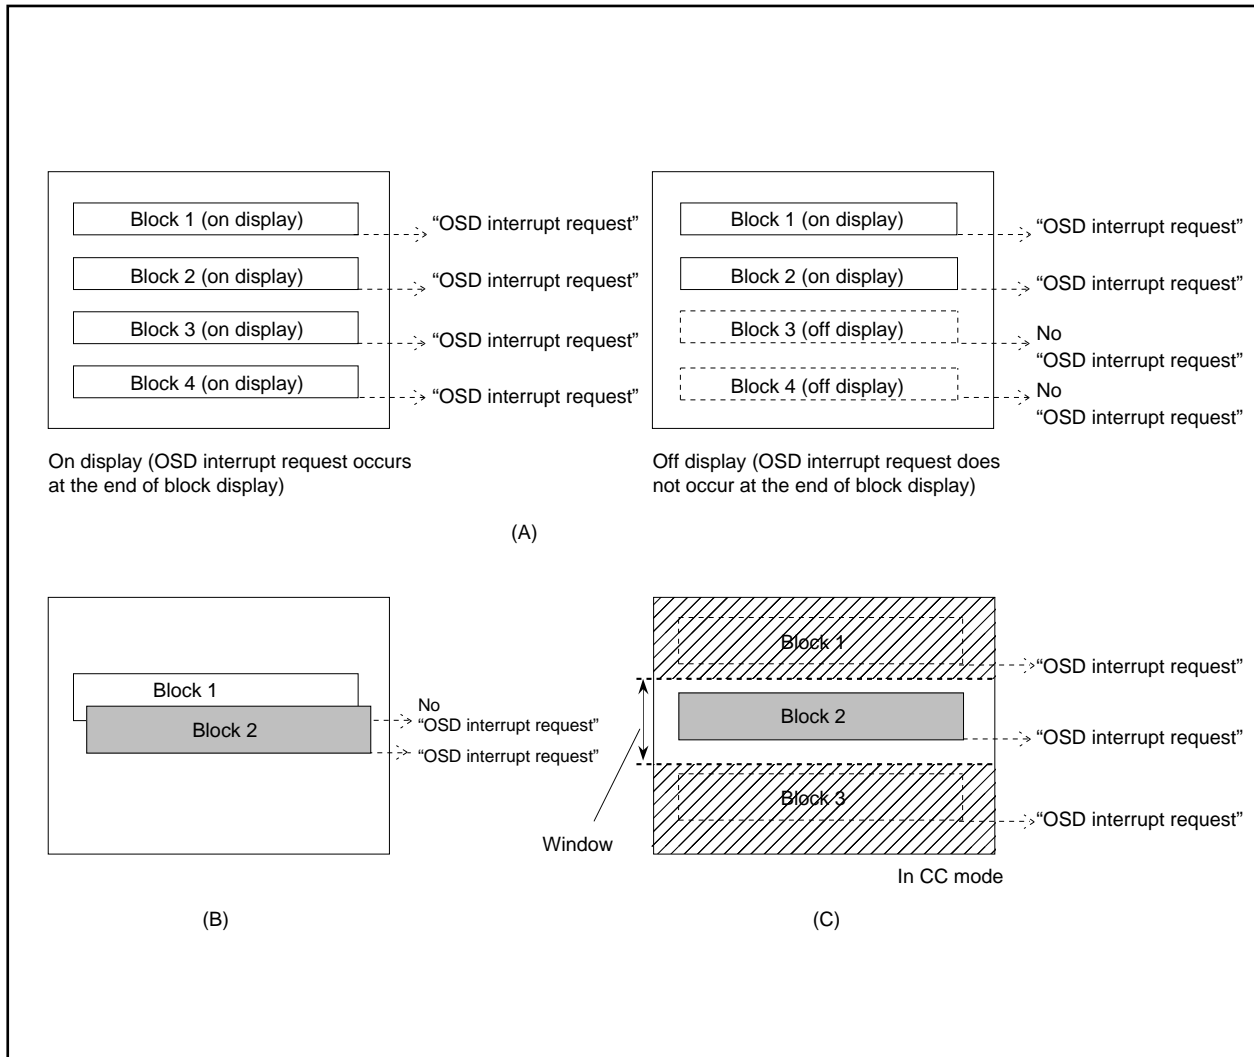

Fig. 83. Note on Occurrence of OSD Interrupt
Notes 1: An OSD interrupt does not occur at the end of display when the block is not displayed. In other words, if a block is set to off display by the display control bit of the block control register (addresses 00D0₁₆ to 00DB₁₆), an OSD interrupt request does not occur (refer to Figure 83 (A)).
2: When another block display appears while one block is displayed, an OSD interrupt request occurs only once at the end of the another block display (refer to Figure 83 (B)).
3: On the screen setting window, an OSD interrupt occurs even at the end of the CC mode block (off display) out of window (refer to Figure 83 (C)).